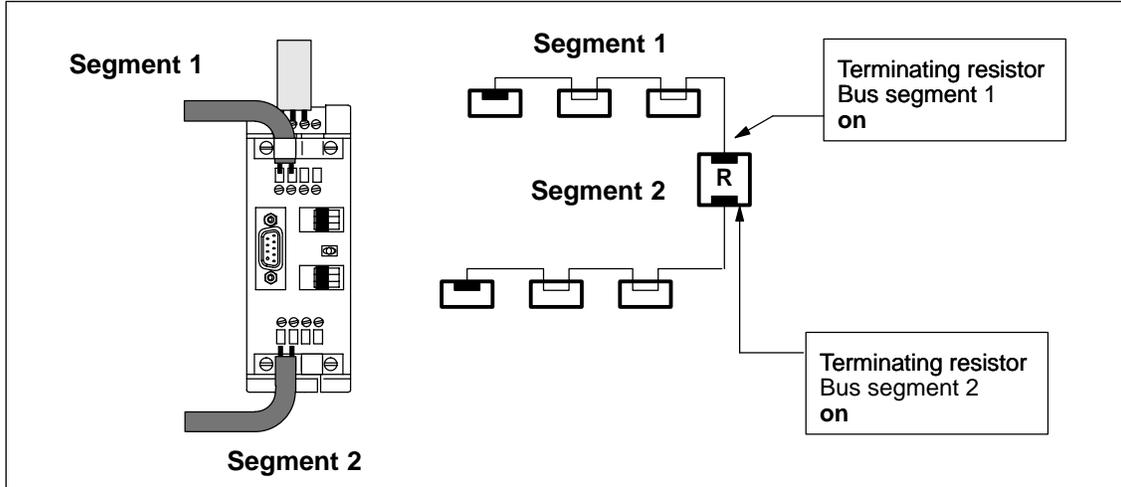

Figure 5-3 Connecting Two Bus Segments to the RS-485 Repeater
)¹ If the terminating resistor is activated, the right-hand bus attachment is disconnected (see Figure 5-3) !
- Segment 1 and Segment 2 terminated on the RS-485 repeater (see Figure 5-3)
Figure 5-3 shows how to connect the RS-485 repeater to the ends between two segments: